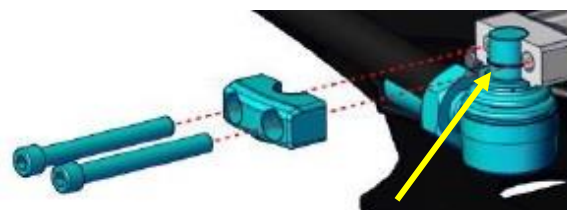

Figure 115
10. Use Green 648 Loctite on the shaft of the tie rod end before installing the clamps. During assembly make certain the snap rings align with the grooves in the clamps. Figure 115